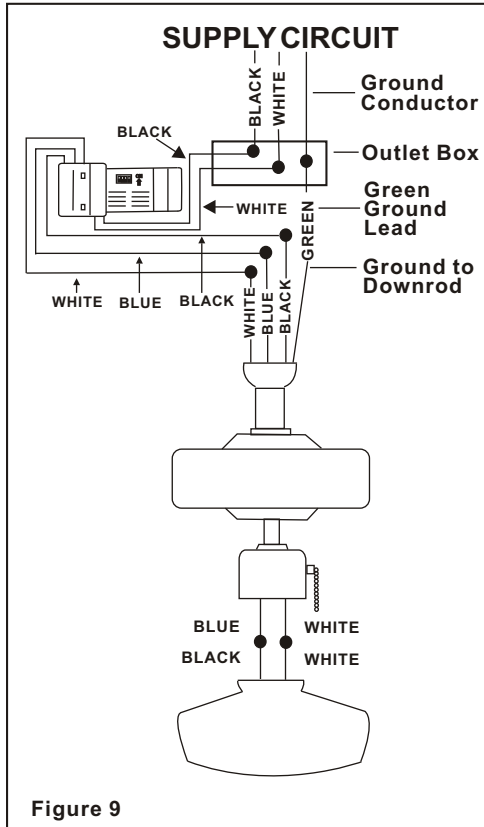

Figure 9
**Step 2.** (Fig. 9) Motor to Receiver Electrical Connections: Connect the Black wire from the fan to Black wire marked "TO MOTOR L". Connect the White wire from the fan to the White wire marked "TO MOTOR N" from the receiver. Connect the Blue wire from the fan to the Blue wire marked "For Light" from the receiver. Secure wire connections with the plastic wire nuts provided.
**Step 3.** (Figure 9) Receiver to House Supply Wires Electrical Connections: Connect the black (hot) wire from the ceiling to the black wire marked "AC in L" from the receiver. Connect the white (neutral) wire from the ceiling to the white wire marked "AC in N" from the Receiver. Secure the wire connections with the plastic wire nuts provided.
**Step 4.** (Figure 9) If your outlet box has a ground wire (green or bare copper) connect it to the fan ground wires; otherwise connect the hanging bracket ground wire to the mounting bracket. Secure the wire connection with a plastic nut provided. After connecting the wires spread them apart so that the green and white wires are on one side of the outlet box and black and blue wires are on the other side. Carefully tuck the wire connections up into the outlet box.